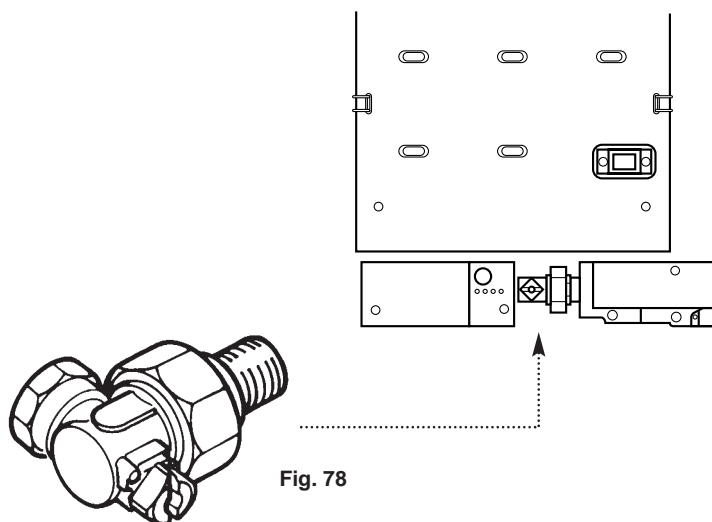

Fig. 78
1. Connection to the gas supply is RC $\frac{1}{2}$ ($\frac{1}{2}$ in BSPT internal) located at the rear of the gas cock (Fig. 78).